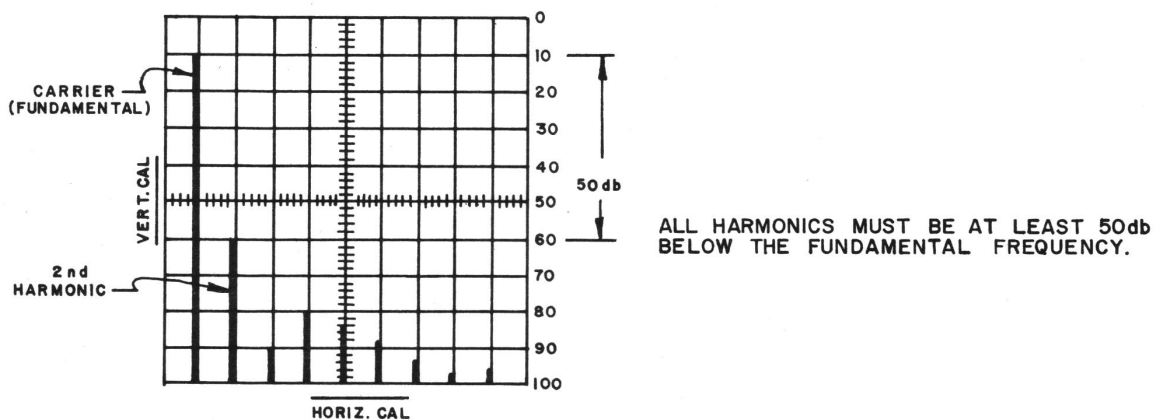

FIGURE 5, HARMONICS FREQUENCY PATTERNS
- B. Press the TRANSMIT switch and observe on the spectrum analyzer the fundamental and harmonic frequency patterns. Adjust the TVI Trap (See Figure 1) on the rear of the chassis to reduce ALL HARMONICS to at least -50 db below the fundamental as shown in Figure 5.